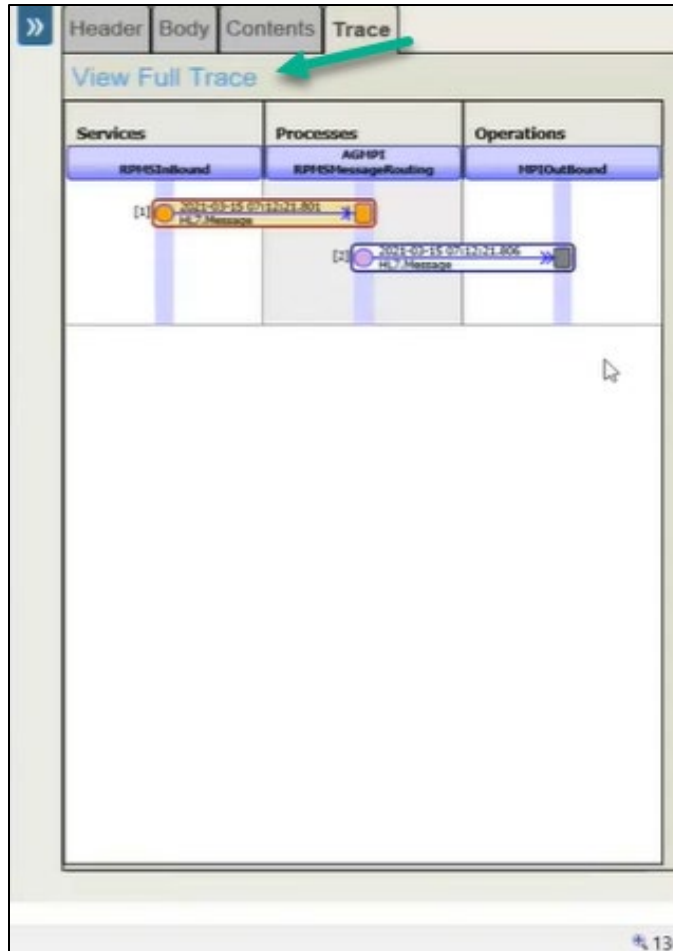

Figure 5-5: Message flow through Ensemble
7. Click on **View Full Trace** (Figure 5-5, green arrow) to see details.